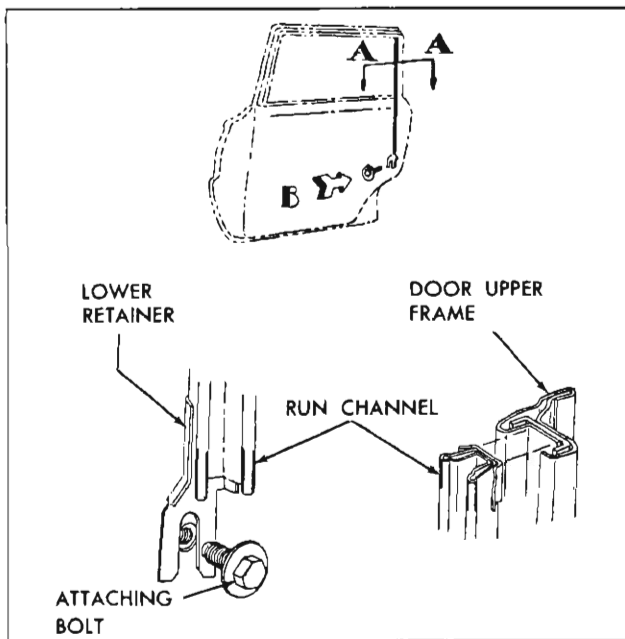

Fig. 59—Rear Door Window Glass Run Channel—35 and 45 Styles
2. From inside door, remove bolt securing lower end of glass run channel at door lock pillar facing (fig. 59).